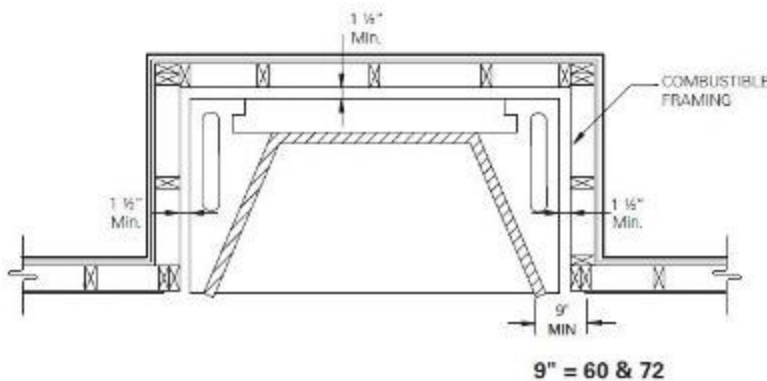

FIGURE 1
- The MAGNUM 60/72 series firebox sidewalls and backwalls require 1-1/2” clearance. **(Figure 1)**
To avoid causing a fire resulting in damage to property, personal injury, or loss of life, do not pack or fill the required air spaces with insulation or other material. No material is allowed in these areas. **(Figures 1, 2, & 3)**